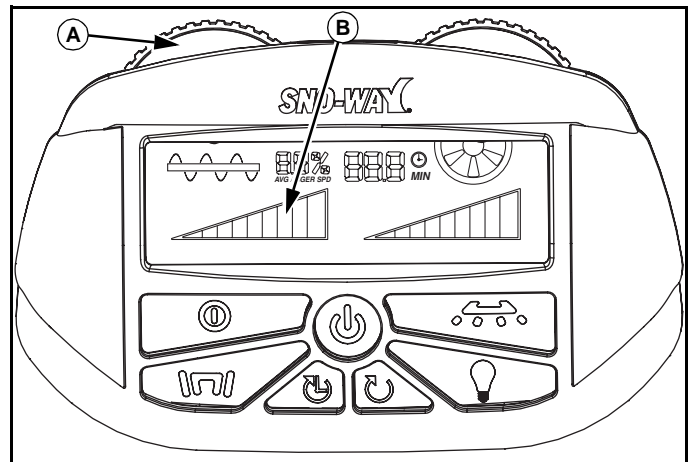

Figure 1-10
To operate the auger, turn the left Auger Dial (A) clockwise to increase speed. The approximate speed percentage is indicated by the Bar Graph (B). When the right dial is rotated completely counterclockwise and the graph does not have any bars the auger will be stopped. (See Figure 1-10.)